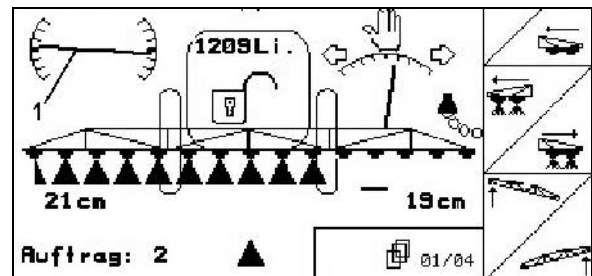

Fig. 85
2. In the operation menu the symbol tilt adjustment (Fig. 85/1) shows the selected sprayer boom tilting. In this case the left hand side sprayer boom is lifted.